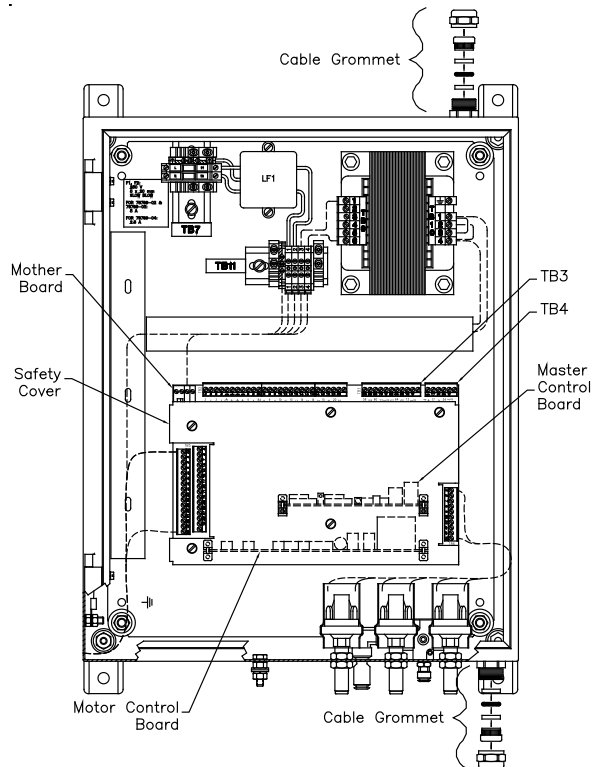

Figure 6: Inside View of Control Panel
Route the control cable from the power supply tank through the connector opening labeled HV POWER SUPPLY at the top right of the control panel and connect to TB4 (see Figure 6 for TB4 location) of the Mother Board printed circuit assembly as detailed in Table 1.
It may be necessary to remove the cable grommet to fit the control cable through the opening. If so, slide the grommet hardware onto the control cable in the order shown in Figure 6 before pulling the cable through the connector housing.
1. Remove the cable grommet hardware from the connector housing(s) labeled REMOTE I/O (DC) on the bottom of the control panel (see Figure 6). Two connectors are provided so 2 separate cables can be used if the connections opposite to the control panel are in different locations.
4. Slide the cable grommet hardware onto the cable in the order shown in Figure 6.
5. Route the cable(s) back through the connector housing(s) and connect to TB3 (see Figure 6 for TB3 location) as detailed in Table 4.
8. Ensure switches and jumpers are set as described in Table 4 for the correct input/output (0-10 VDC or 4-20 mA DC). The safety cover shown in Figure 6 must be removed in order to gain access to the Motor and Master Control PC boards.